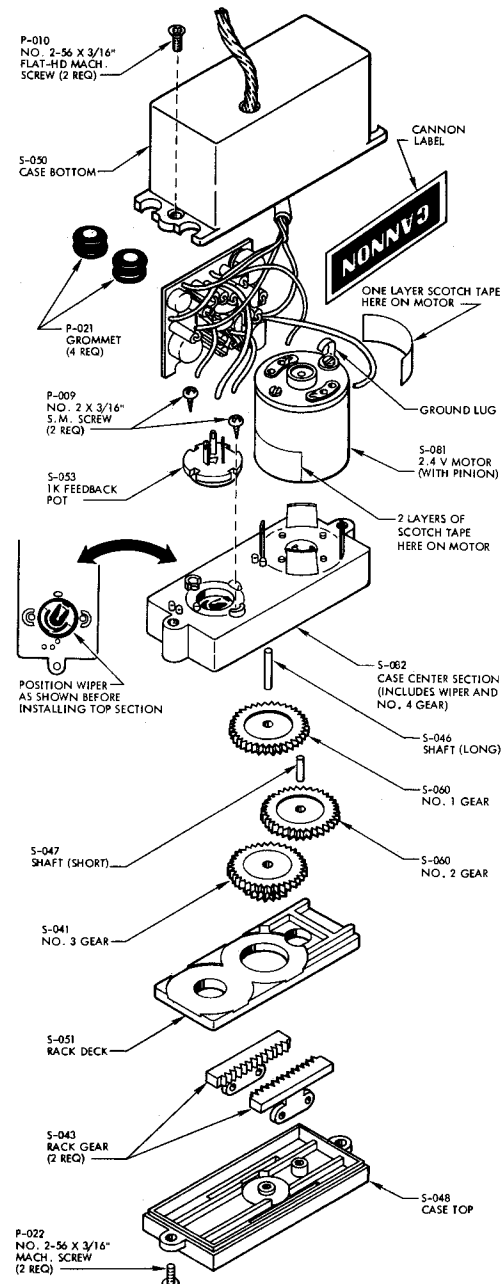

Figure 8. Exploded View of Servo
- 53. Slide cable end through hole in case bottom until about 4" of wire extends from inside of case. (See figure 8.)
Refer to figure 8 for identification of servo components and placement of parts. Assemble servo as follows:
- 65. Turn No. 4 gear by hand to position pot wiper as shown in figure 8.